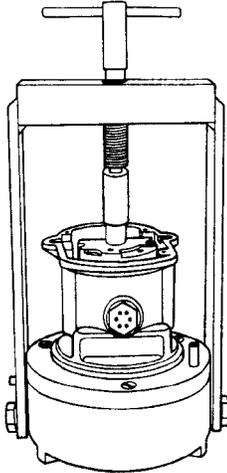

Figure 7.2.1
- E. Put the T-151 cam and rotor set, or T-102 as applicable, onto the end of the rotor shaft and turn T-handle until the shaft bottoms in magneto frame. (See Figure 7.2.1.)